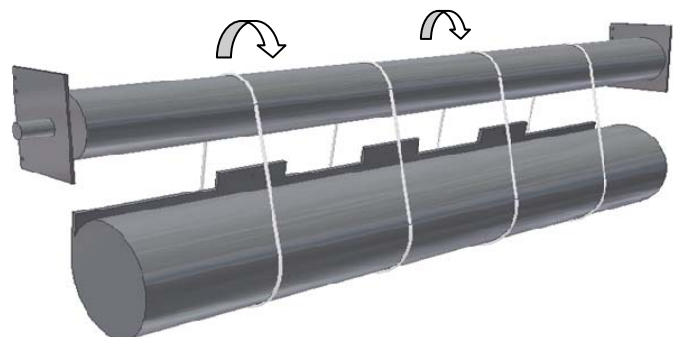

Figure 8.2 - Installing the Curtain
5. Lift the coil until it is just below the shaft. Using appropriately rated ropes or straps, sling the coil from the shaft as shown in **Figure 8.2**. Remove the plastic strapping securing the coil at this point.